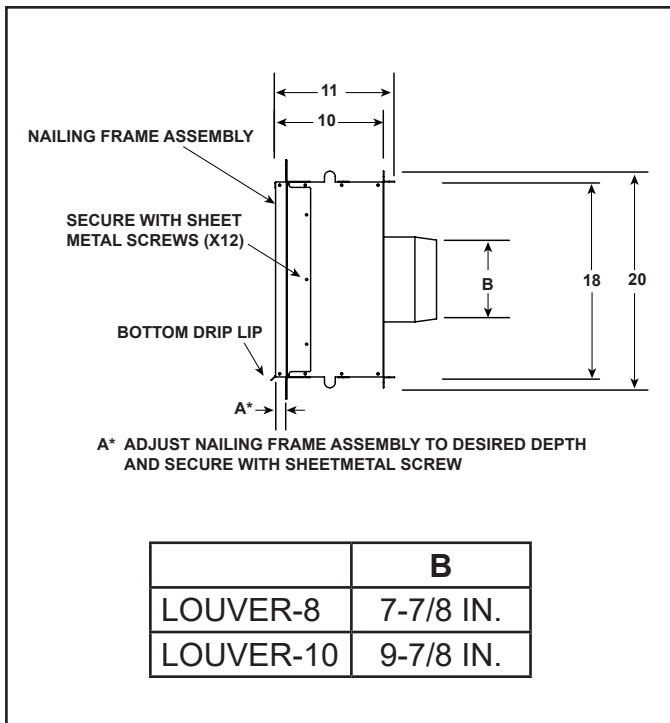

Figure 3 Louver Orientation
2. Adjust the depth of the nailing flange in relation to the front of the louver assembly. The depth adjustment is dependent on thickness of finishing materials. See Figure 3.
3. Secure the nailing flange to the louver assembly using the sheetmetal screws provided with the kit. See Figure 3.